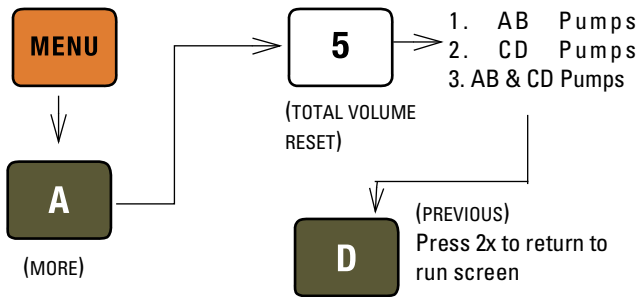

Figure 5-5 Keystrokes to reset volume totalizer
3. Reset total volume (see Figure 5-5).
5. Reset total volume (see Figure 5-5).